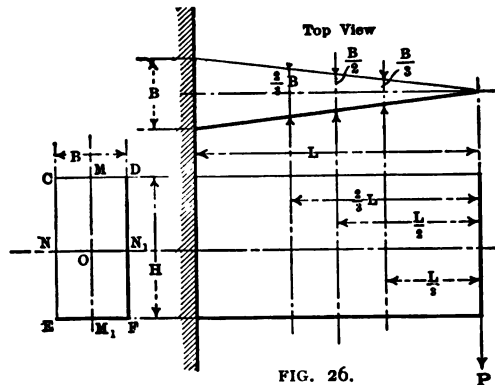

FIG. 26.
Let Fig. 26 represent a beam held at one end and loaded at the other. For simplicity's sake the transverse section is made rectangular and the equation of the bending moment is, as we have seen before,
As an example, let us find the moment of inertia of the rectangular section of the beam shown in Fig. 26. If we conceive the section as divided into two equal parts by the neutral axis NN_1 , then, according to formula (32), we have for the upper part: